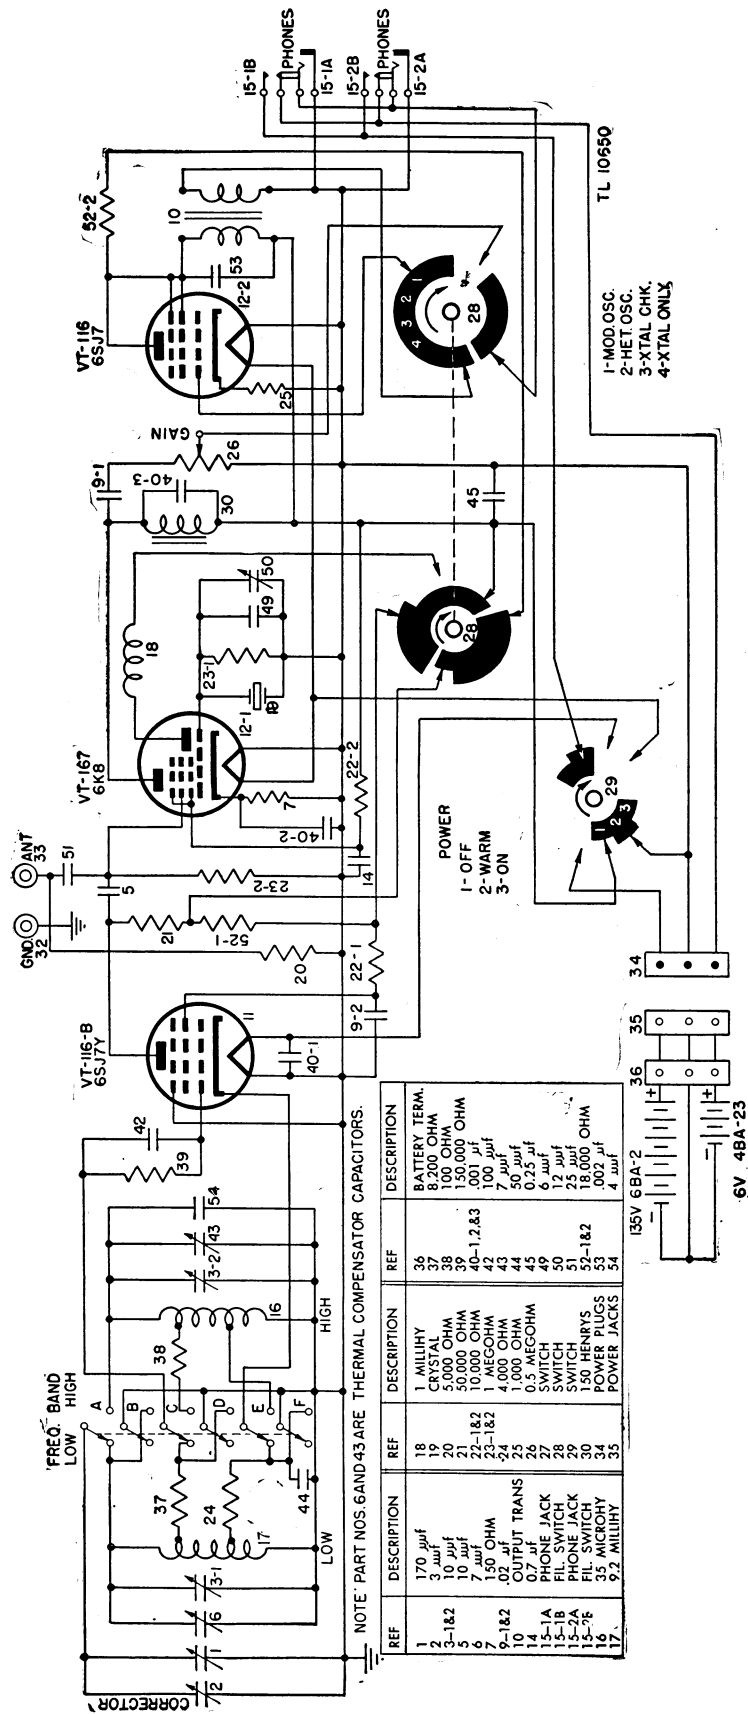

Figure 99. Frequency Meter BC-221-AJ, schematic diagram.
ulator circuit. The POWER switch has three positions instead of the two positions formerly used. At the third position of the POWER switch, WARM-UP, only the filament of variable frequency oscillator Tube VT-116-B (6SJ7Y) draws current. (See figs. 99 and 100.)
e. **OSCILLATOR FUNCTION.** (1) The variable frequency oscillator circuit is in operation whenever the POWER switch 29 is in the ON position, the operation switch 28 is in the MOD. OSC., HET. OSC., or XTAL CHK position, and a headset is plugged into a PHONES jack. (See figs. 99 and 100.)
328. Power Supply Circuit (figs. 99 and 100)